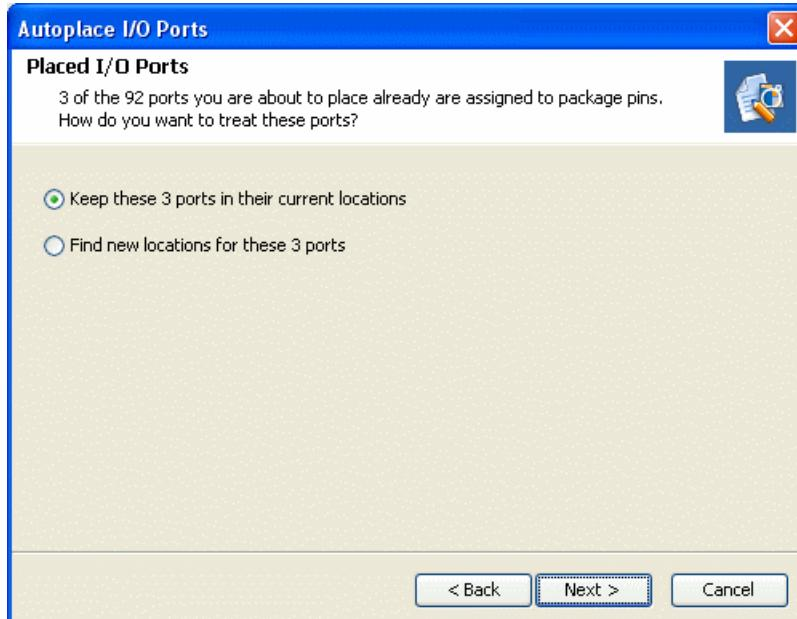

Figure 8-25: Autoplace I/O Ports Wizard
4. If you select I/O ports that have already been assigned to package pins, the dialog box opens, as shown in Figure 8-25, page 290.